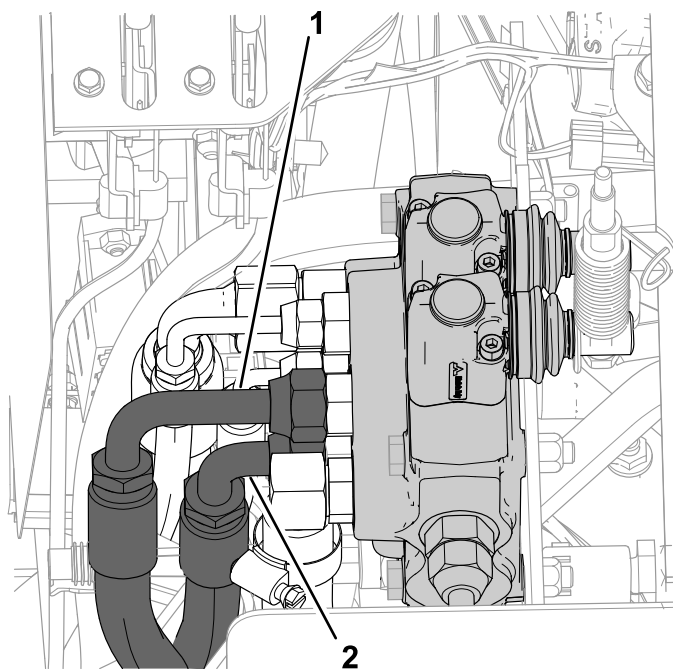

Figure 8
8. Disconnect the hydraulic hoses shown in Figure 8 from the hydraulics lever valve.